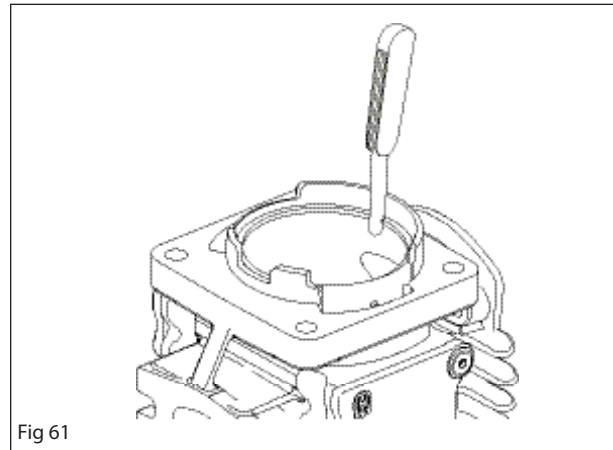

Fig 61
- Measure the wear on the piston rings. This must not exceed 1 mm. See figure 61. Use the piston to push the piston ring downward.